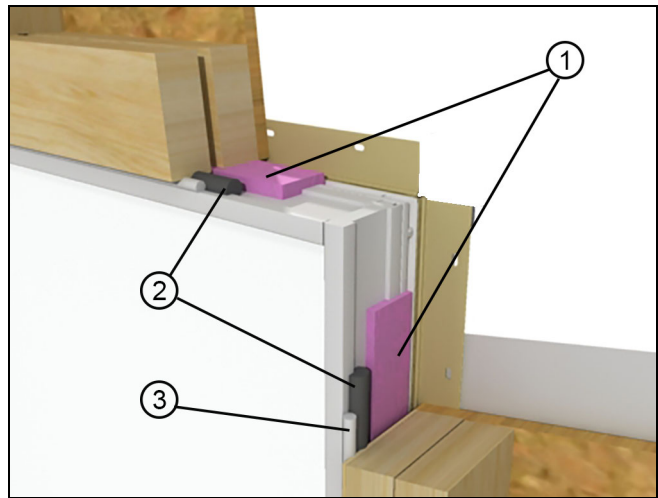

Figure 23
11. Integrate the unit with the interior air barrier of the structure by inserting backer rod into the RO and applying a continuous bead of sealant around the interior perimeter of the unit. See Figure 23.